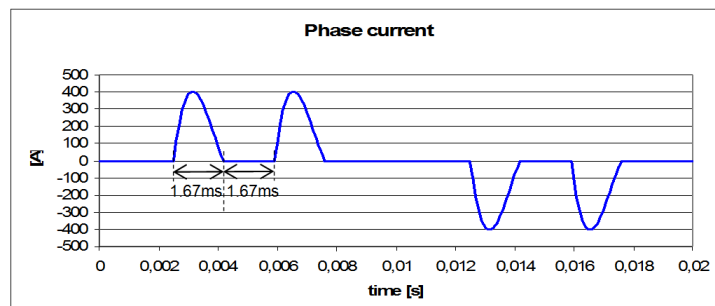

Figure 1
- c) Calculate the rms-current and the average current through one rectifying diode (see figure 1). Calculate the rectifier diode losses. The diode threshold voltage is 1.1 V and the differential resistance is 2.0 mohm. (2 p.)